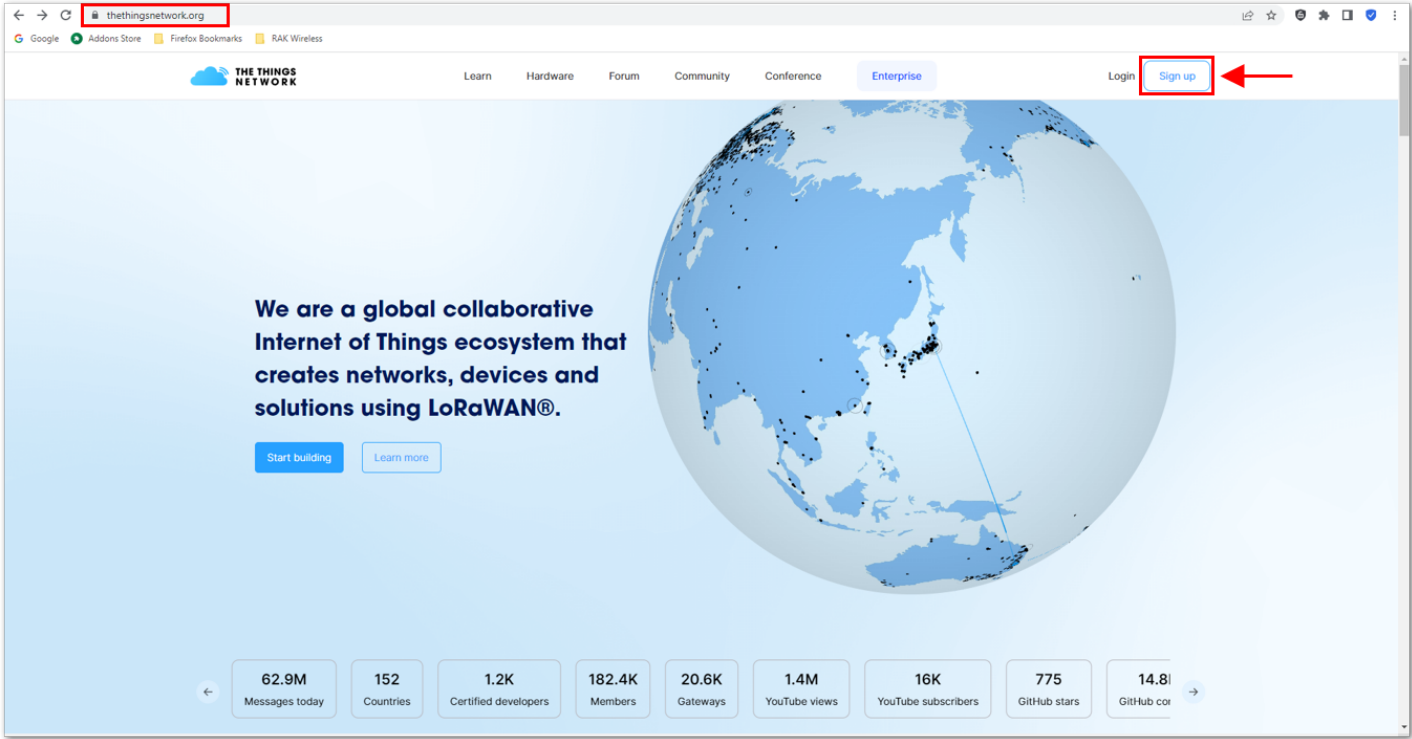
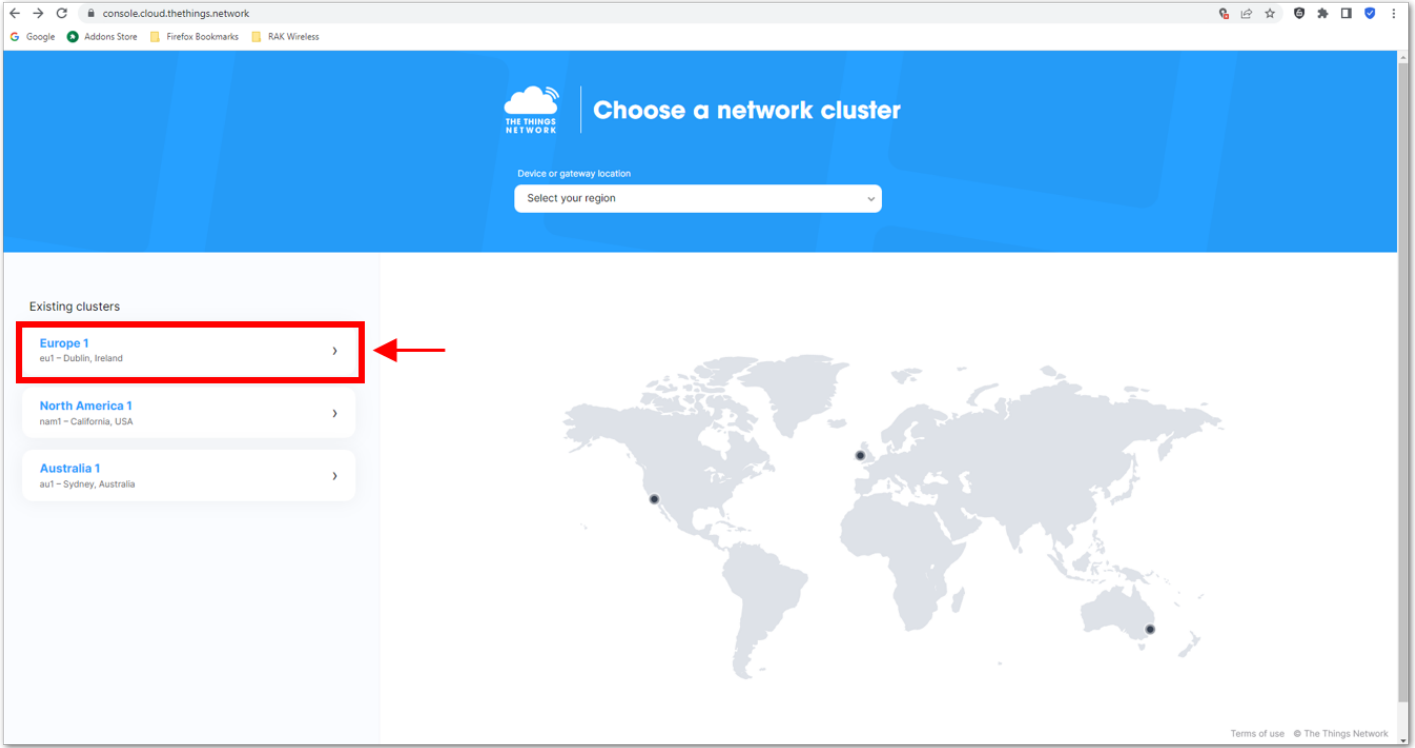

Figure 28: Signing up an account in TTN
Figure 30: Selecting Cluster in TTN
1. The first step is to go to The Things Network and sign up an account shown in **Figure 28**. Then select a cluster as shown in **Figure 30**.